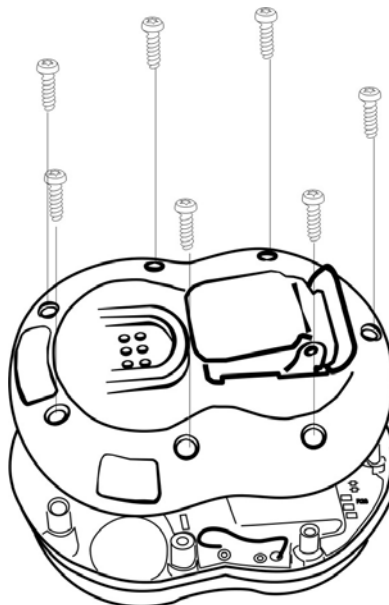

Figure 5-1. Removing Protégé Cover
- 2) Unscrew and remove the 7 Torx head screws from the back of the Protégé. Refer to Figure 5-1.